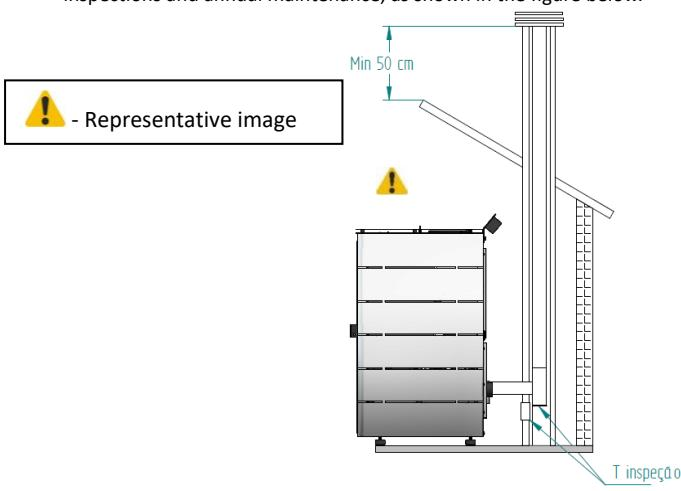

Figure 13 – Side view of the system with chimney, with inspection point example
- As shown by the Figure 13, the installation of the wood burning stove *pellets* brings the exhaust pipe directly to the chimney. If the chimney is too large, it is recommended to pipe the smoke outlet with a pipe with a minimum internal diameter of 80 mm. Place a "T" on the bottom of the pipe for periodic inspections and annual maintenance, as shown in the figure below.